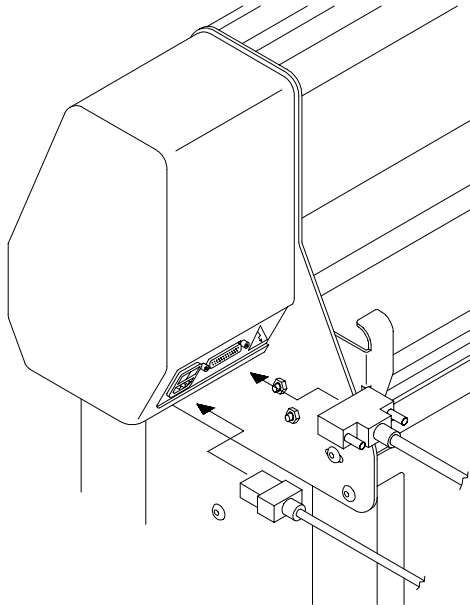

Figure 13. Connecting the power and serial cables to the rear panel.
1. Use the power cord in the accessory kit to connect the plotter to an outlet or surge protector. See *Figure 13*.
2. Use the included serial cable to connect the serial port on the rear panel of the plotter to the serial port on the back of the computer. A 25 pin to 9 pin serial adapter may be necessary. See *Figure 13*.